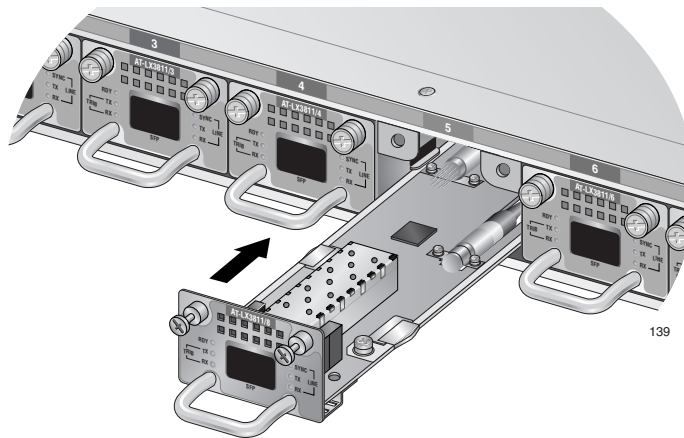

Figure 24. Inserting the Line Card
7. Slide the line card into the slot that corresponds to the line card number, as shown in Figure 24, until the faceplate is flush with the front. (See “Line Card Descriptions” on page 20 for a list of the line cards and their corresponding slot numbers.)